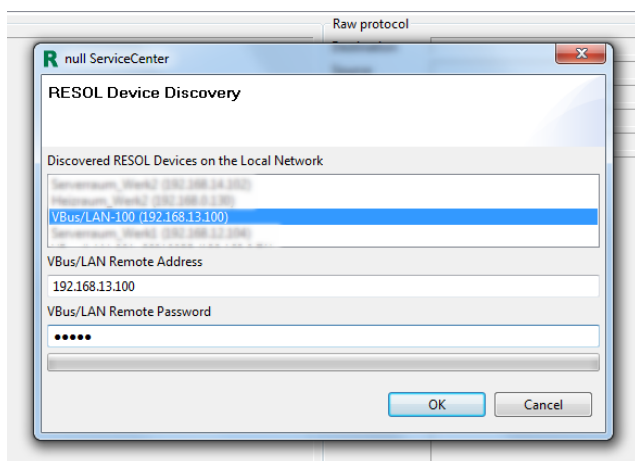

Fig. 3
- The window **RESOL Device Discovery** appears (Fig. 3).